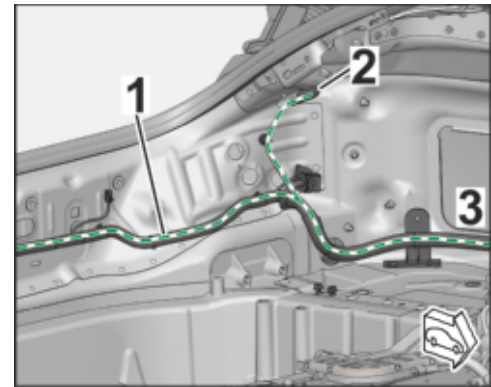

Figure 12
2.2.1 Tail light area, left (see also wiring diagram 12.2 – Vehicle exterior lighting, sheet 2) ⇒ *Figure 12*
- Repeat Step 2.1.1 for the left tail light. ⇒ *Figure 12 -2-*